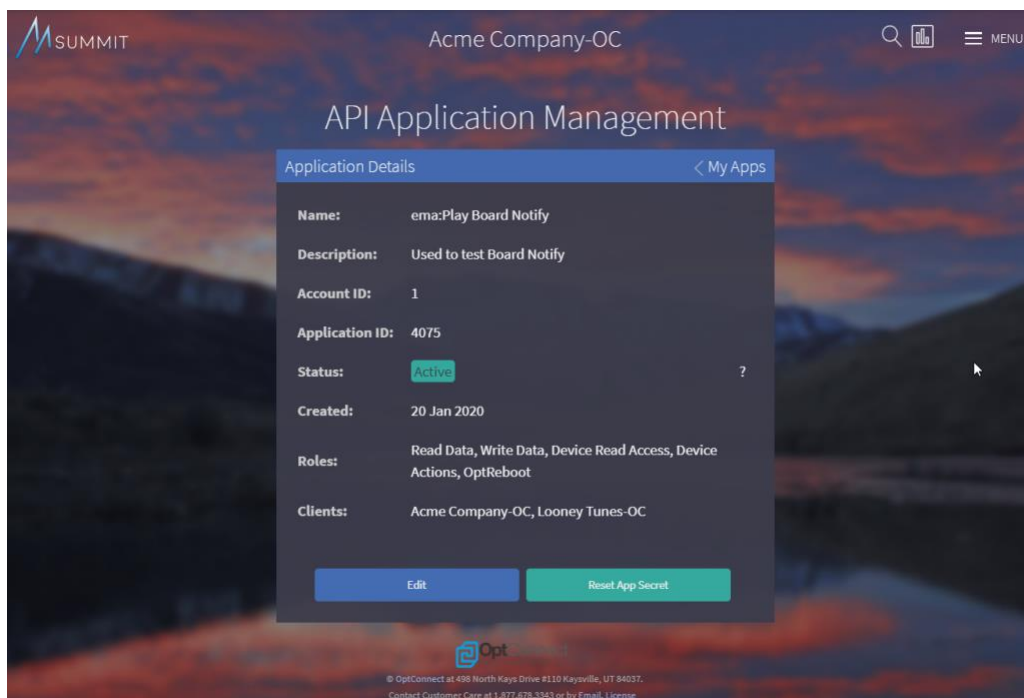

Figure 32
- Once the “Create” button is clicked, a window will pop up asking to copy the App Secret. Copy the App Secret and save it in a secure location for later use. Close the App Secret pop up page. The “Application Details” page should now be displayed as shown in Figure 32. Note the Account ID and the Application ID for later use.